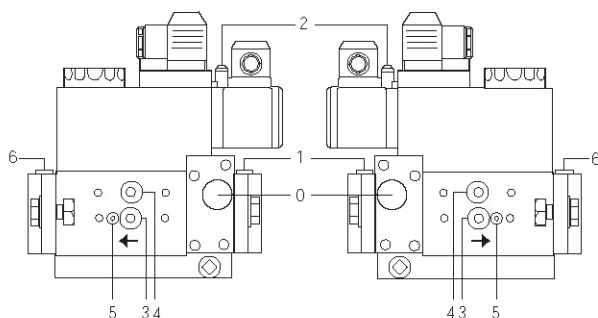
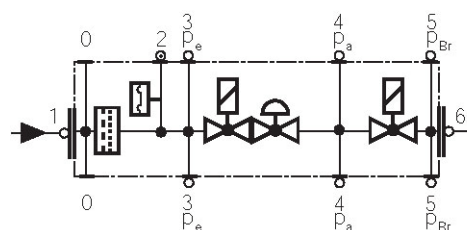

Fig. 20
Fig. 21
- Change the filter if the pressure difference between pressure connection 1 and 3 (Fig. 20-Fig. 21) is $\Delta p > 10$ mbar.
- Change the filter if the pressure difference between pressure connection 1 and 3 (Fig. 20-Fig. 21) is twice as high compared to the last check.